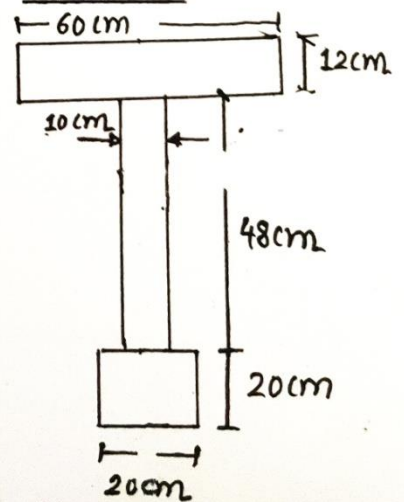

Fig. 06
- (c) Determine moments of inertia of a section shown in fig. 06 about horizontal centroidal axis. **07**
- Q.5** (a) Define: (1) Shear Force (2) Bending Moment (3) Points of contraflexure **03**
- (b) Derive the relation between : (1) Young's Modulus (2) Modulus of Rigidity (3) Poisson's Ratio **04**